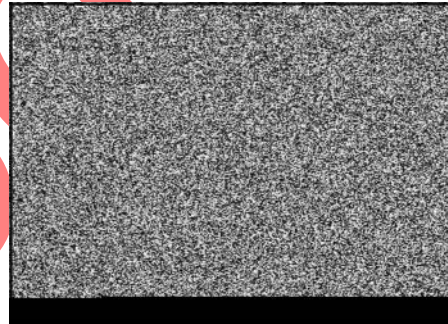

Figure 7
8. On vertical crankshaft engines, assemble governor gear/oil slinger (B, Figures 7 and 8) to camshaft. Make sure the paddle on the governor shaft is contacting the governor cup (C).